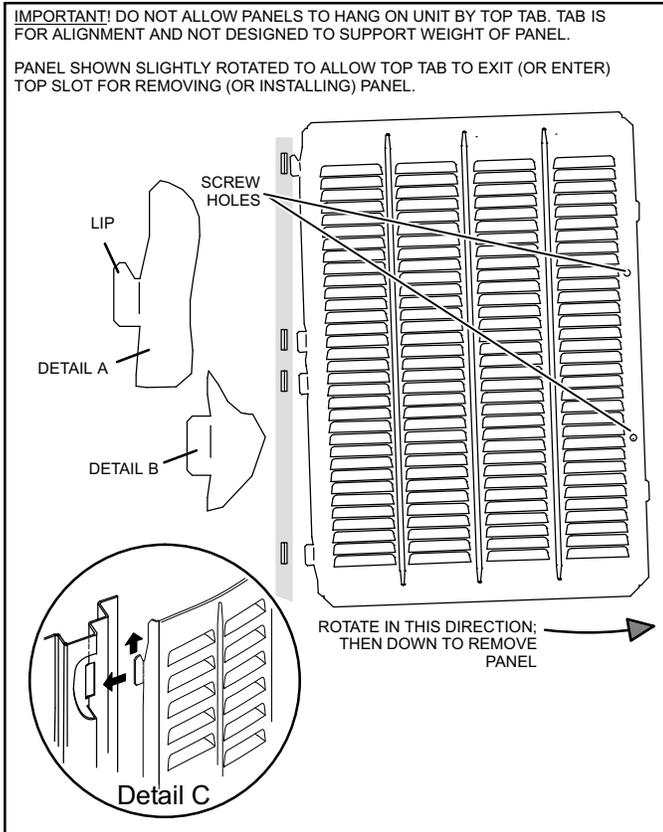

Figure 11. Removing/Installing Louvered Panels (Details A, B and C)
1. Remove two screws, allowing the panel to swing open slightly as illustrated in figure 11.
2. Rotate bottom corner of panel away from hinge corner post until lower three tabs clear the slots as illustrated in figure 11, detail B.
3. Move panel down until lip of upper tab clears the top slot in corner post as illustrated in figure 11, detail A.
2. With a continuous motion slightly rotate and guide the lip of top tab inward as illustrated in figure 11, details